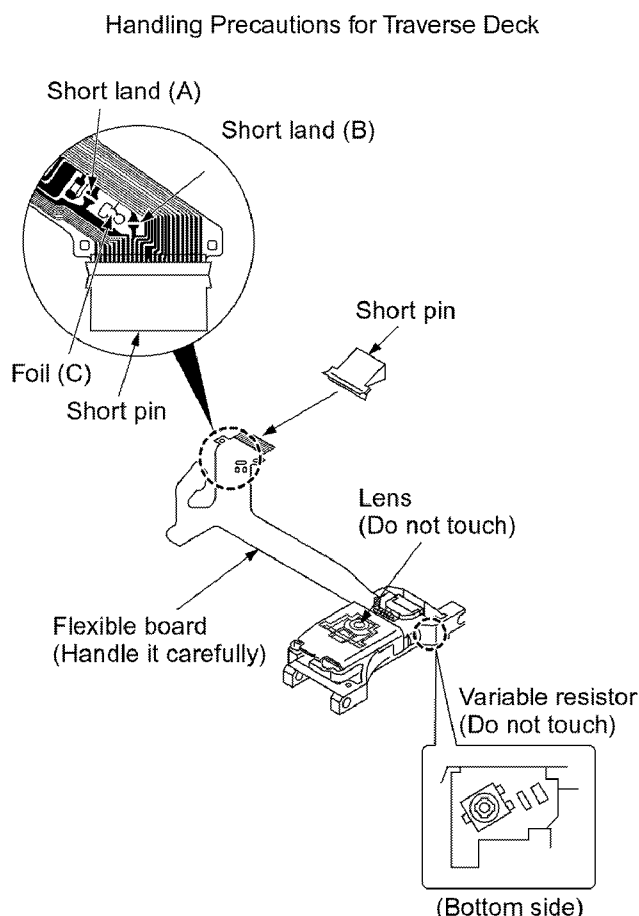

Fig. 1
(Refer to **Fig. 1**)
(as shown in **Fig. 1**)
2. Cut the foil (C). (Refer to **Fig. 1**) (Take care not to make contact with cutting point each other.)
3. Unsolder the short lands. (Refer to **Fig. 1**)